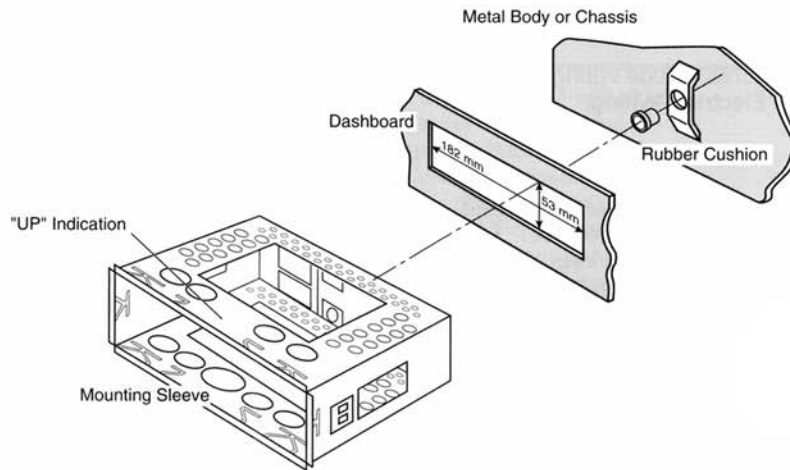

Figure 27. Bushing Support for the Mounting Sleeve.
3. In some vehicles, the firewall provides a bushing support for the rear of the sleeve. Check the firewall for this bushing support before installing the sleeve. If the support is available, insert the rubber grommet (included) to the stud at the back of the sleeve and slide the sleeve into place as shown in Figure 27.
CAUTION: THE INSTALLATION AS SHOWN IN FIGURES 27 & 28 IS USED FOR MOST DOMESTIC AND FOREIGN CARS. TAKE EXTRA TIME TO SECURE THE FLANGES ON THE RTA-33 MOUNTING SLEEVE TO THE DASH.